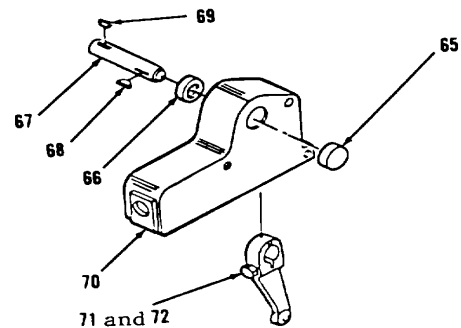

Figure 3-162.
30. Install items 72 and 71 as an assembly in housing (70, Figure 3-162).
31. Install keys (69 and 68) and shaft (67).